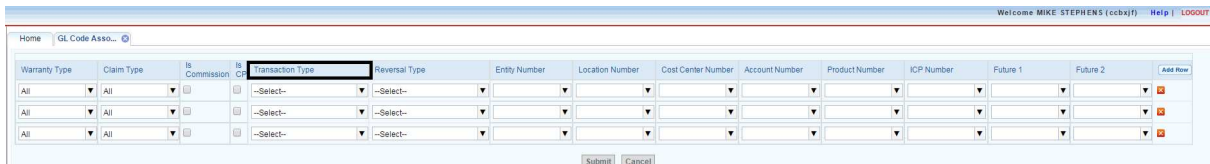

Fig 1: GL Association Screen based on Warranty Type / Claim Type / Concession and Reversal Type
- The GL code Association Page will be used to build the GL Code. The user will have the option to create the GL code based on the Warranty type, Claim Type, Concession and Reversal Type Refer Fig 1.